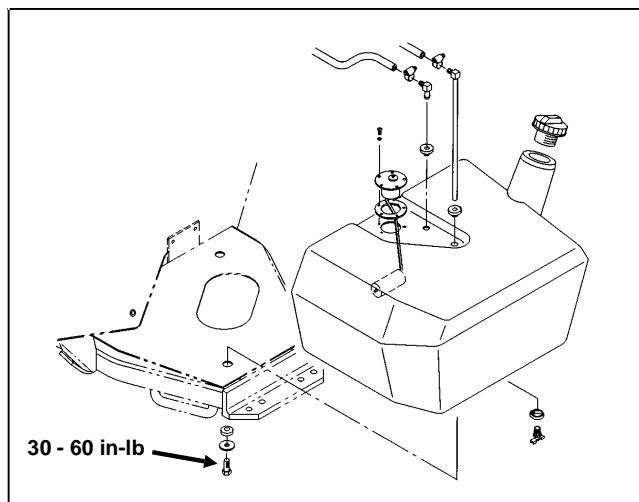

Figure 15
7. Reverse steps 2 - 6 to install the fuel tank and tank base. When installing the tank to the frame, tighten the screws to a torque of 30 - 60 in-lb (Fig. 15). Do not overtighten.